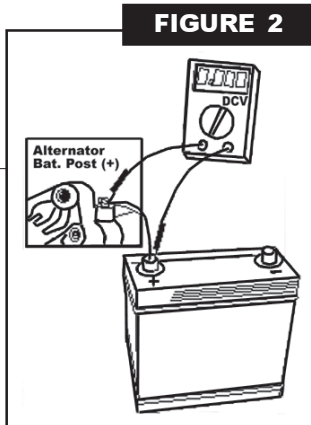

FIGURE 2
- ◆ Using the voltmeter, measure the voltage drop between the battery positive post (+) and the alternator output post (See figure 2). Voltage should be less than 0.40VDC. If voltage is higher than 0.40VDC, check for poor connections between the alternator and the battery. Possible causes are undersized battery cables, loose or improperly crimped terminals, and corroded connections.